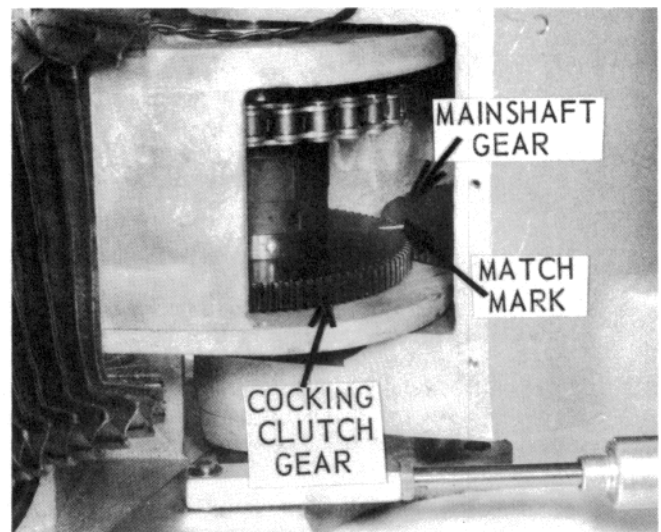

Figure 70 — Match Mark
- 6.1.6 Match mark the cocking clutch gear and mainshaft gear (see Figure 70). This permits gear to be correctly phased when reassembling.